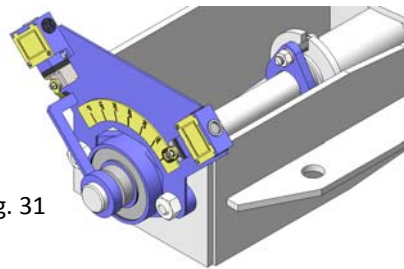

fig. 31
Limit switches (fig. 31)
- **Mechanical limit switches, inductive switches and positioners:** Installation of limit switches (fig. 31) or detectors to indicate specific valve position, and positioners to indicate continuous position.